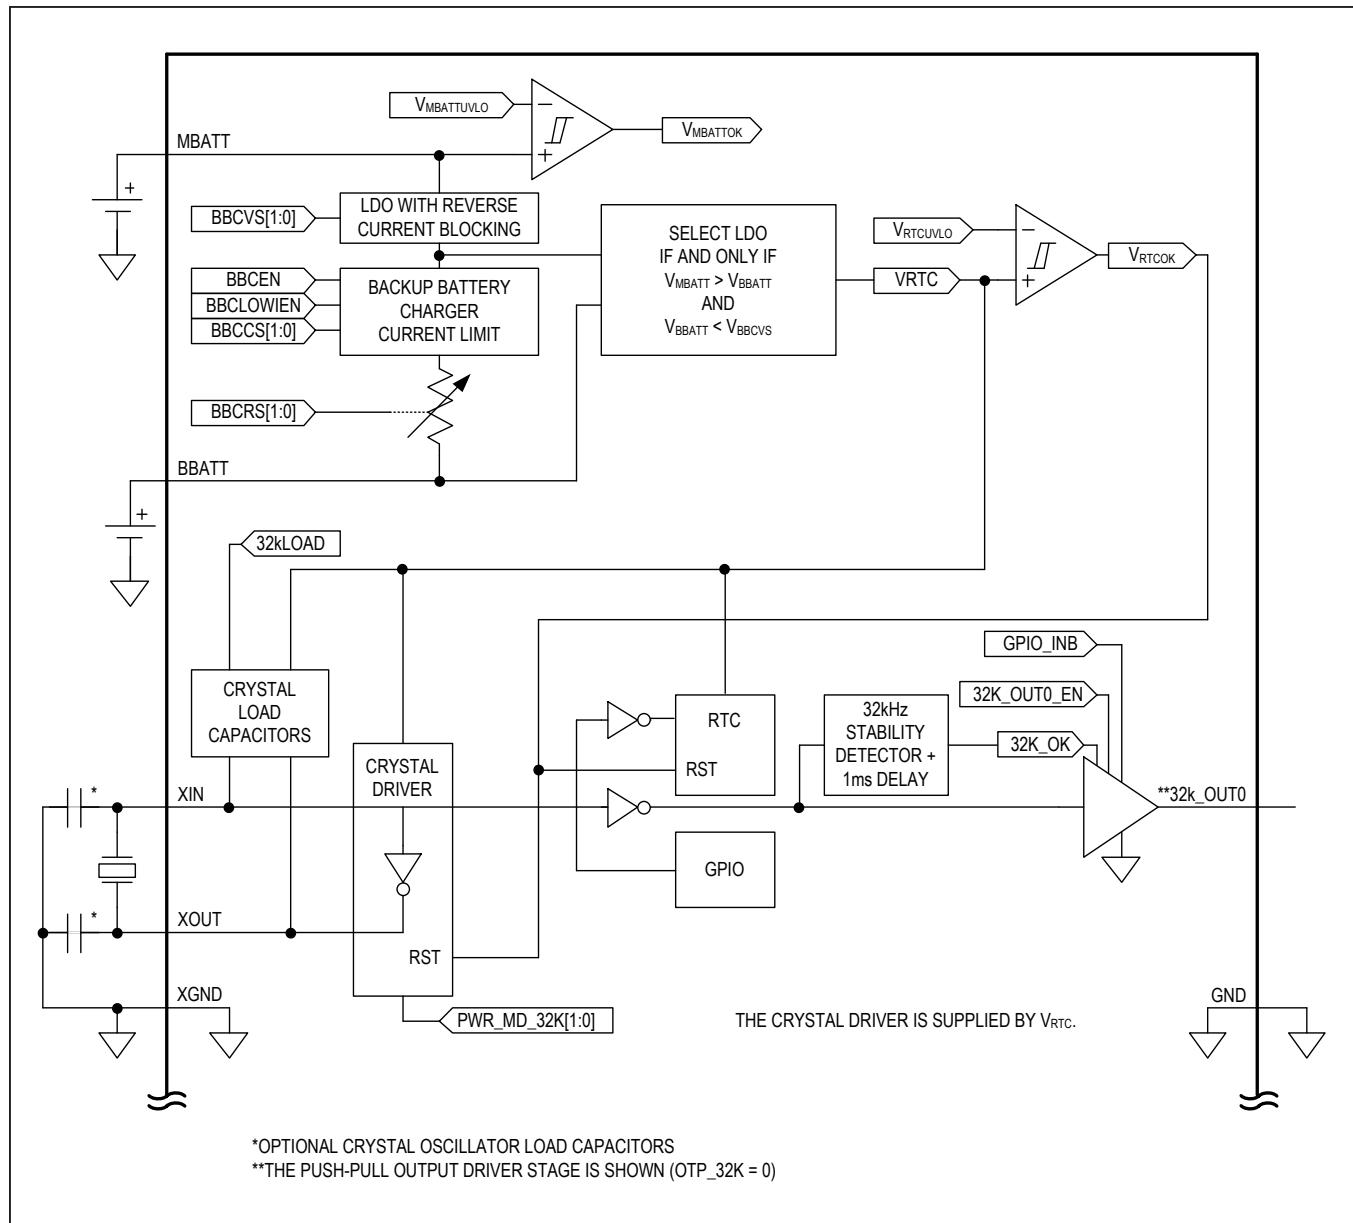

Figure 14. Backup Battery Charger, 32kHz Crystal Oscillator and RTC
The IC contains a crystal oscillator driver with internal load capacitance selectable by 32kLOAD[1:0] (Figure 14). PWR_MD_32K controls whether the crystal driver is in low-power mode or low-jitter mode. In low-power mode, the oscillator quiescent current is 1.5 μ A and in low-jitter mode the cycle-by-cycle jitter is 15ns. The crystal driver is supplied from the internal V_{RTC} node which is equal to V_{MBATT} if V_{MBATT} > V_{MBATTUVLO}.
The backup battery charger is a constant voltage (CV) and constant current (CC) style charger with a series output resistance as shown in Figure 14. The backup battery charger is enabled and disabled with BBCEN. The charge current, charger voltage, output current, and output resistance are adjustable with the BBCCTRL register. The backup-battery charger is suitable for the following types of backup cells: